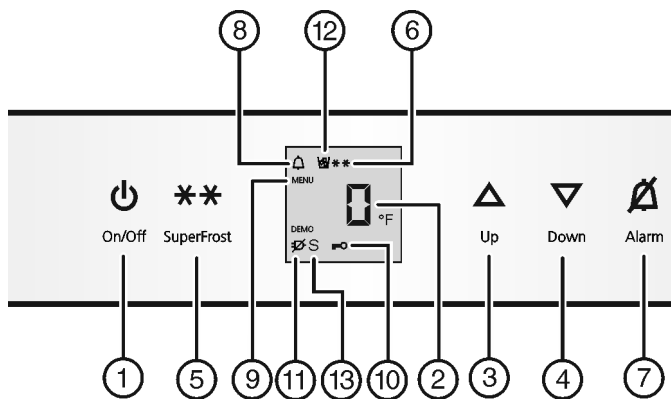

Fig. 2
- ▶ Press On/Off button Fig. 2 (1).
- ▶ Activate setting mode: Press SuperFrost button Fig. 2 (5) for about 5 seconds.
- ▷ The Menu symbol Fig. 2 (9) lights up.
- ▶ Using Up button Fig. 2 (3) / Down button Fig. 2 (4) select °.
- ▶ To confirm: Briefly press SuperFrost button Fig. 2 (5).
- ▶ Using Up button Fig. 2 (3) / Down button Fig. 2 (4) select °F or °C.
- ▶ To exit setting mode: Press On/Off button Fig. 2 (1).
- ▶ Activate setting mode: press and hold the SuperFrost button Fig. 2 (5) for approximately 5 s.
- ▷ The Menu symbol *Fig. 2 (9)* lights up.
- ▶ Using the Up button *Fig. 2 (3)* or Down button *Fig. 2 (4)*, select **c**.
- ▶ Press the SuperFrost button *Fig. 2 (5)* briefly to confirm. When **c1** is shown on the display:
- ▶ To switch on the child-proof lock, press the SuperFrost button *Fig. 2 (5)* briefly.
- ▷ The Child safety symbol *Fig. 2 (10)* lights up. **c** flashes on the display. When **c0** is shown on the display:
- ▶ To switch off the child-proof lock, press the SuperFrost button *Fig. 2 (5)* briefly.
- ▷ The Child safety symbol *Fig. 2 (10)* goes out. **c** flashes on the display.
- ▶ Deactivate setting mode: press the On/Off button *Fig. 2 (1)*.
- ▶ Press Alarm button *Fig. 2 (7)*.
At the same time, the Alarm symbol *Fig. 2 (8)* will flash.
The audible warning automatically ceases, the Alarm symbol *Fig. 2 (8)* goes out, and the temperature display stops flashing when the temperature is cold enough again.
- ▶ To activate setting mode: Press and hold the SuperFrost button *Fig. 2 (5)* for approx. 5 s.
- ▶ To access the Sabbath mode function: Briefly press the SuperFrost button *Fig. 2 (5)*.